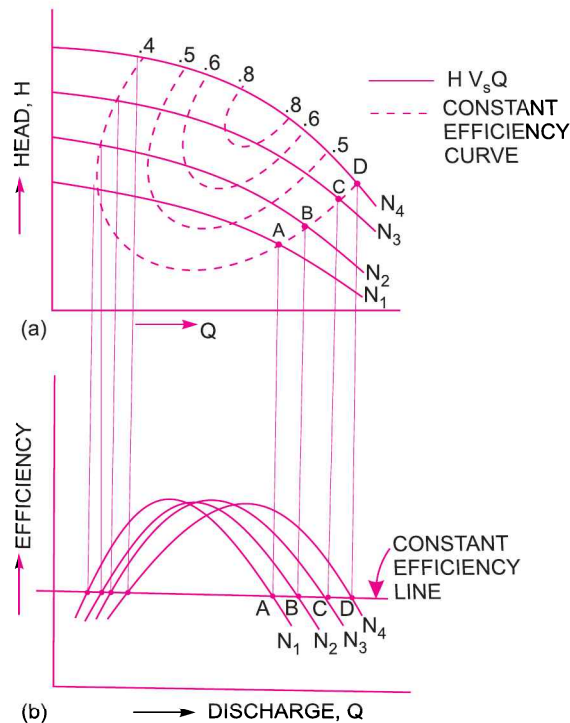

Fig. 19.16 Constant efficiency curves of a pump.
19.10.3 Constant Efficiency Curves. For obtaining constant efficiency curves for a pump, the head *versus* discharge curves and efficiency *versus* discharge curves for different speed are used. Fig. 19.16 (a) shows the head *versus* discharge curves for different speeds. The efficiency *versus* discharge curves for the different speeds are as shown in Fig. 19.16 (b). By combining these curves ($H \sim Q$ curves and $\eta \sim Q$ curves), constant efficiency curves are obtained as shown in Fig. 19.16 (a).